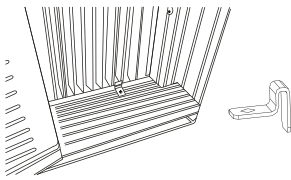
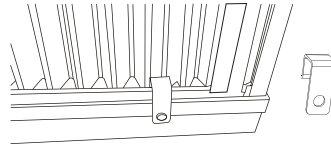

Fig.7A
Fig.7B
- A. Place the frame lock between the frame extensions and the window sill as shown(Fig.7A for Wooden windows), (Fig.7B for Vinyl-Clad windows) .